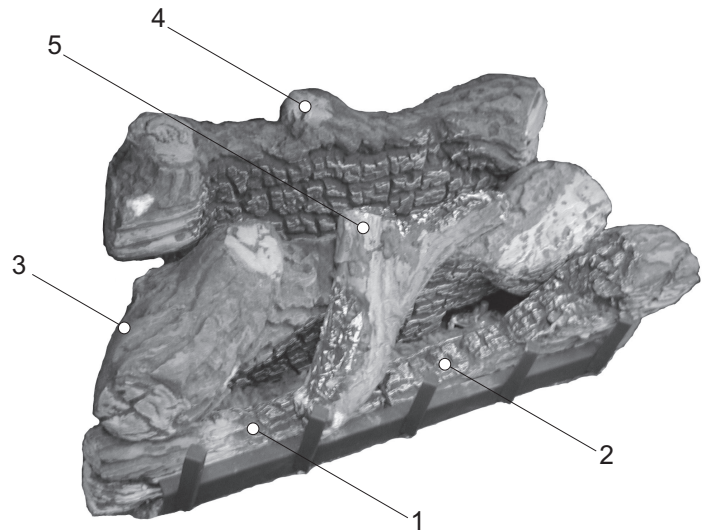
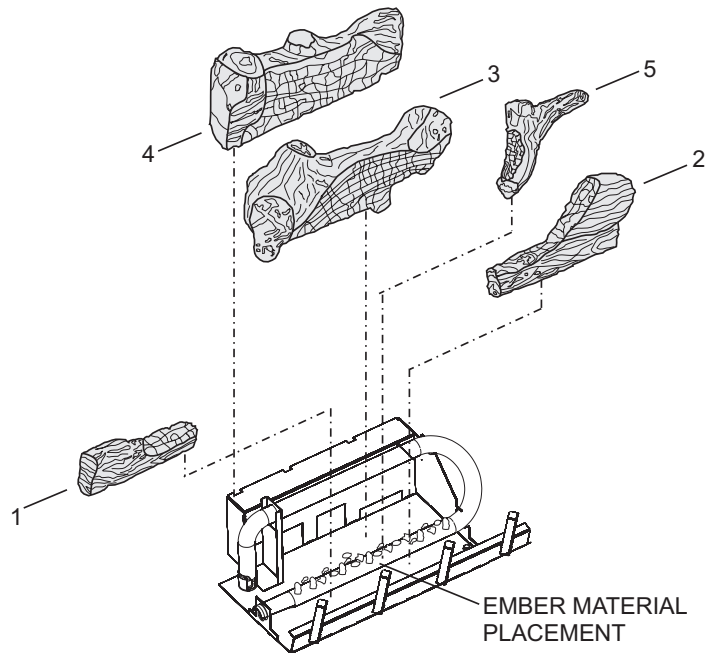

Figure 55
Figure 56
The positioning of the logs is critical to the safe and clean operation of this fireplace. Sooting and other problems may result if the logs are not properly and firmly positioned in the fireplace. Please refer to **Figure 55** and **Figure 56** and corresponding WARNING when completing following log placement instructions.
Attention: Do not use Figure 55 or Figure 56 to order logs. Refer to parts list on pages 50 - 51 and parts view on page 52 to order logs and/or ember material for your appropriate fireplace model.
10. After all logs are positioned properly, apply Rockwool ember material to the front burner port area. To apply, carefully separate the ember material into small amounts no larger than "dime size" pieces. Fluffed up pieces one layer thick on top of the burner generally works best, and will provide the best ember glow. Do not place ember material more than one layer thick. No more than (1) small packet of ember material (part no. 15999) evenly placed on the burner, is recommended on DVD32 and DVD36 models. Using additional ember material will decrease the amount of ember glow effect. Extra ember material should be saved for future ember applications as necessary. See Figure 56.